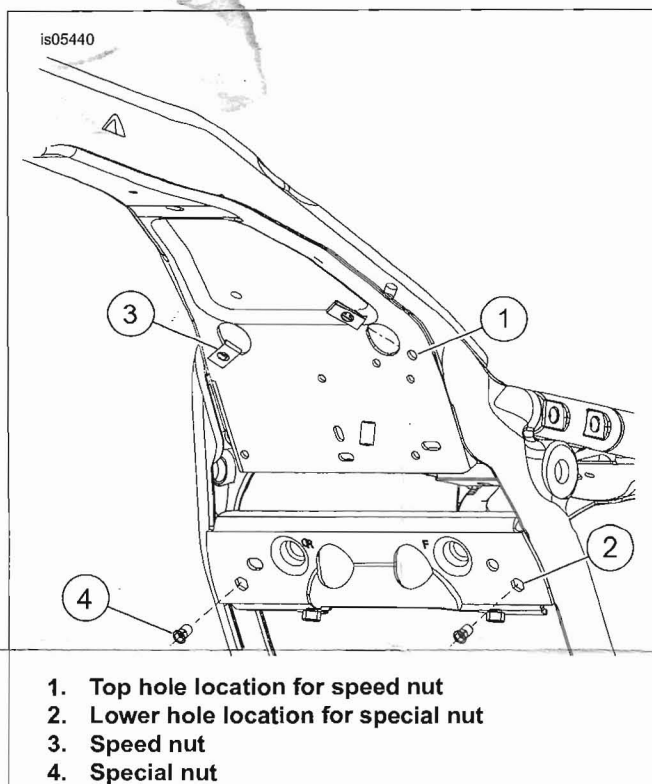

Figure 1. Fastener Locations
1. See Figure 1 and identify the frame hole locations that will be used to fasten the air deflector hardware. Install speed nut (3) clips over hole (1) and special nut (4) inserts into hex hole (2).